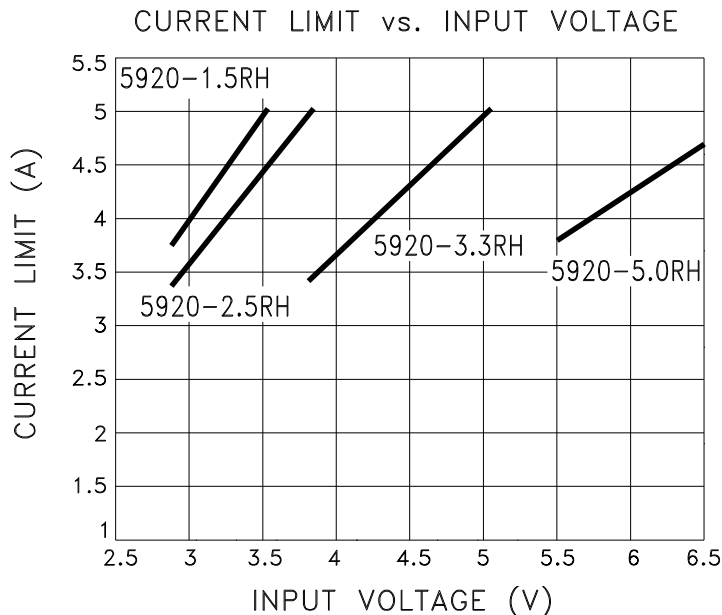

FIGURE 1
- ⑦ Output current limit is dependent upon the values of V_{IN} and V_{OUT}. See Figure 1 and typical performance curves.
- ⑧ Continuous operation at or above absolute maximum ratings may adversely effect the device performance and/or life cycle.
- ⑨ V_{IN} shall be as specified or V_{IN} min., whichever is greater.
- ⑩ Not applicable to versions where V_{IN} = V_{IN} Min.
- ⑪ Pre and post irradiation limits at 25°C, up to 100Krad TID, are identical unless otherwise specified.
- ⑫ Reference DSCC SMD 5962R05220 for electrical specifications for devices purchased as such.
- ⑬ Internal solder reflow temperature is 180°C, do not exceed.
The MSK5920RH current limit function is directly affected by the input and output voltages. Figure 1 illustrates the relationship between V_{IN} and I_{CL} for various output voltages. It is very important for the user to consult the SOA curve when using input voltages which result in current limit conditions beyond 4.5 Amps. When using input voltages which result in current limit above 4.5 Amps, the user must maintain output current within the SOA curve to avoid damage to the device. Note that 5 Amp maximum is due to current carrying capability of the internal wirebonds.